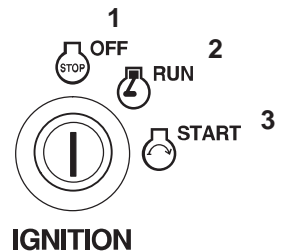

Figure 16
3. Let the engine idle for 60 seconds (Fig. 16).
4. Turn the ignition key to off (Fig. 16).